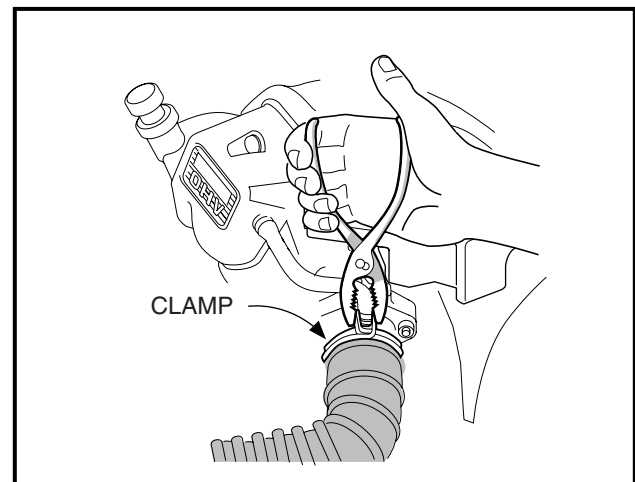

Figure 16-57 Air Intake Hose
32. Connect air intake hose to carburetor and secure with hose clamp (**Figure 16-57, Page 16-22**).